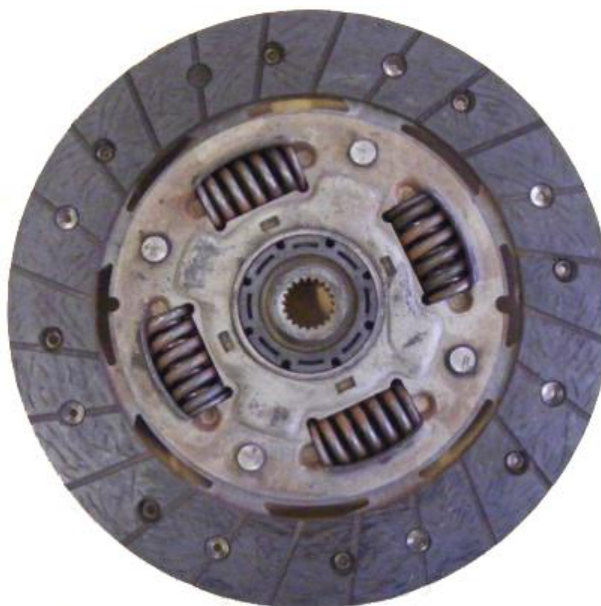

Figure 60 – Clutch Disc Friction Material
69. Inspect the clutch disc friction material to determine that it is still in good condition with no evidence of customer abuse or excessive wear (Figure 60).